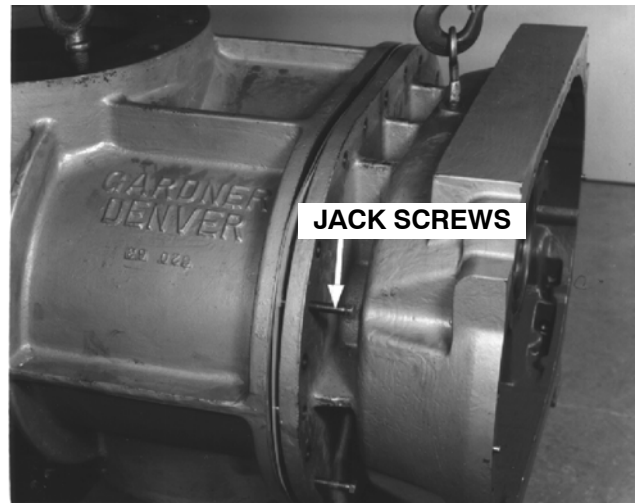

FIGURE 11
blocking so the discharge end bearing carrier (5) hangs free. Remove all screws and jack the carrier evenly from the dowel pins, FIGURE 11. Support the carrier as it is removed.